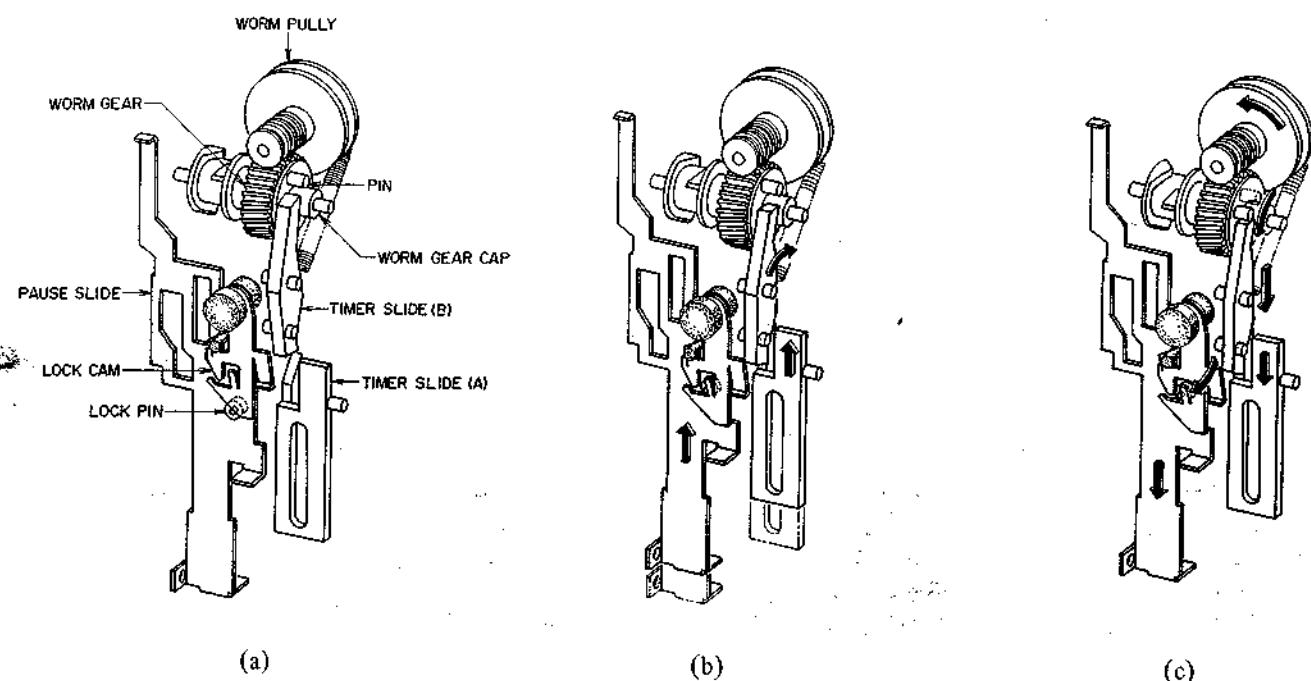

Fig. 5
When put into the PAUSE mode, the LOCK PIN is attached to the LOCK CAM and the PAUSE SLIDE is locked. When the TIMER START SWITCH is put on TIMER SLIDE (A) moves upwards and as a result, TIMER SLIDE (B) moves upwards to the inside in the direction of the arrow and downwards to the outside. See Fig. 5 (b).